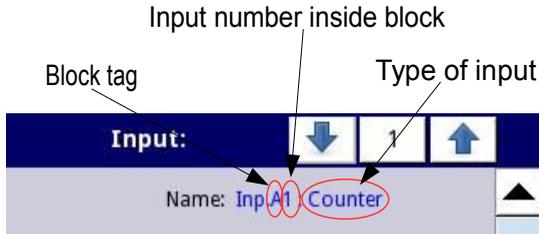

Fig. 7.77. Description of **Name** parameter in **Built-in inputs** menu
A common parameter for all **Built-in inputs** is **Name** – each input has its own unique name and it can not be changed – for description of this parameter see **Fig. 7.77**.
- **Name** - each built-in input already has a name given by the device and the user cannot change it, for the description of the **Name** parameter see **Fig. 7.77**,
- **Name** – each built-in input already has a name given by the device and the user cannot change it, for the description of the **Name** parameter see **Fig. 7.77**,
- **Name** – each built-in input already has a name given by the device and the user cannot change it, for the description of the **Name** parameter see **Fig. 7.77**.
- **Name** – each built-in input already has a name given by the device and user cannot change it, for description of **Name** parameter see **Fig. 7.77**,
- **quad 4** – counter becomes an encoder element used to measure pulses on inputs using quad method. Direction of counter value changes depends on input 1 (2) state (0 - down, 1 - up), and counting take place when on input 2 (1) rising edge appears. Thanks to this method user gains four times higher measurement